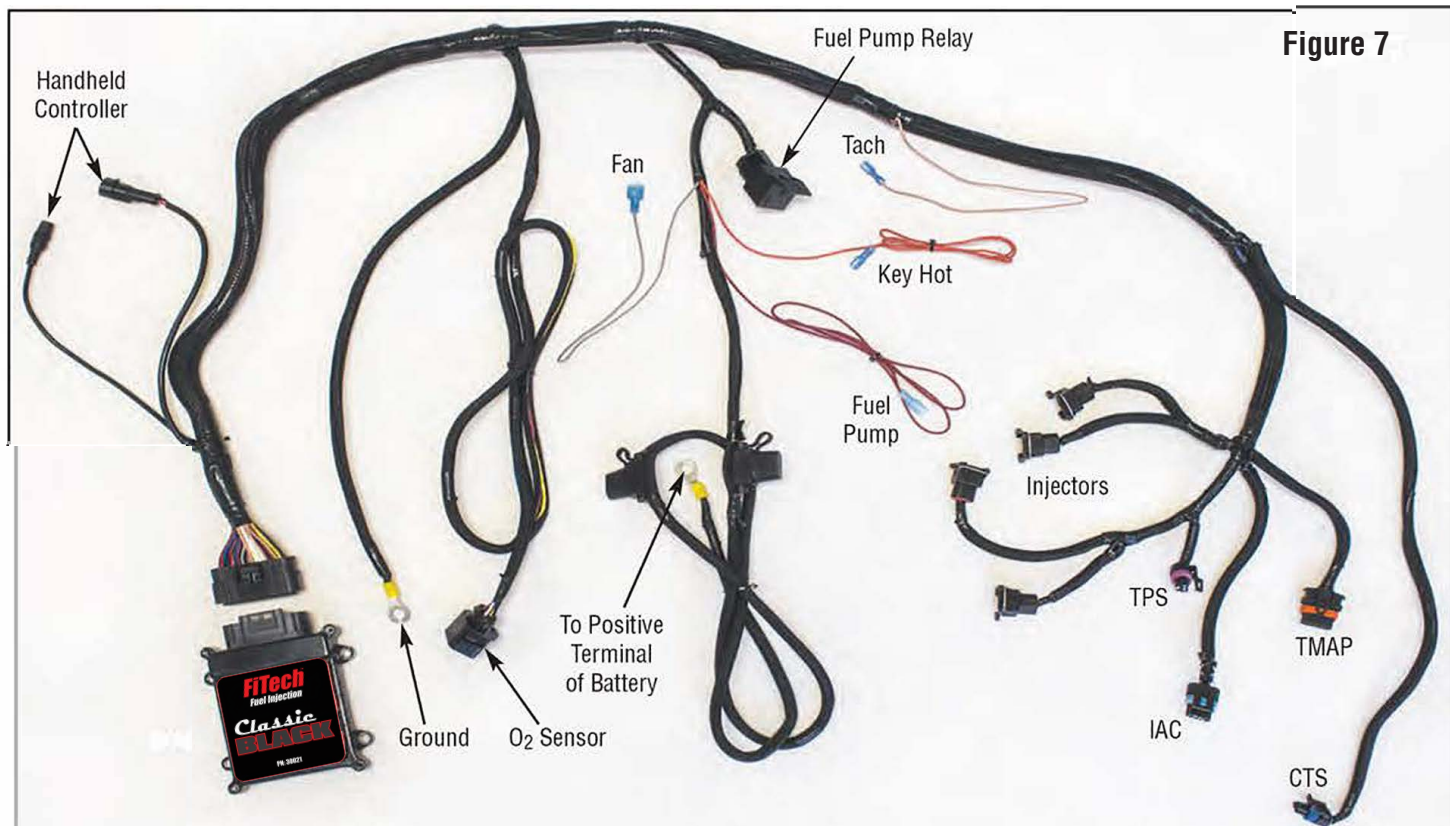

Figure 7
2. The Sensor connects to one of the cables in the main wiring harness. See Figure 7 on next page.
See the wire chart (figure 15) which lists each wire in harness "A" that is used in the system and what it connects to. NOTE: Typically some of the wires listed in the chart on the next page may need to be extended. It is strongly suggested that any wire extensions are made in the same gauge and color wire as is used in the supplied harness. Make connections as a soldered joint rather than a crimped connection. Utilize shrink wrapped sleeve covering all connections. All modification made to wiring can only be made on wires listed in Wire Chart in figure 15 on page 6 such as extensions or cuts. Any modification of the ECU main harness (see figure 7) other than these listed wires will result in a VOIDING of the FiTech EFI warranty.